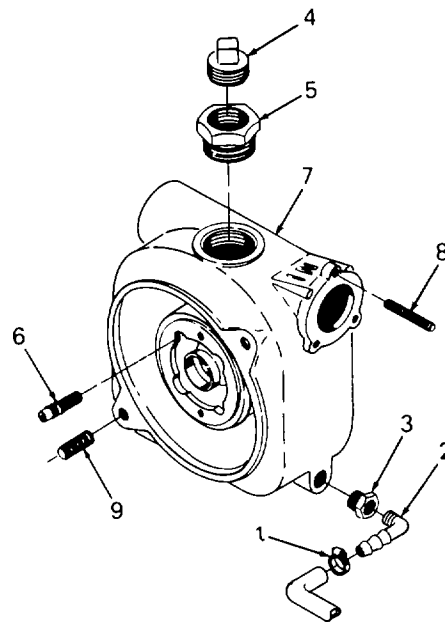

Figure 5-2. Pump Casing Assembly
When replacing seal, also replace volute O-ring (refer to item 7, Figure 4-26), wear plate O-ring (8, Figure 5-1), and four self-sealing screws (6, Figure 5-2).
- (1) Screw impeller (3) clockwise onto shaft adapter (9) without shims (4). Be sure that the impeller is seated firmly against the shaft shoulder. Secure the impeller with teflon washer (2) and hex bolt (1).
- (2) Measure from the face of the impeller to the face of the wear plate with feeler gauge. Clearance should be 0.010 to 0.015 Inch (0.254 to 0.381 mm).
- (3) Shims (4) are 0.010 inch (0.254 mm) thick and 0.005 inch (0.127 mm) thick. Add any combination of shims to obtain proper clearance.
- i. After proper clearance is obtained, tighten impeller locking bolt (1).